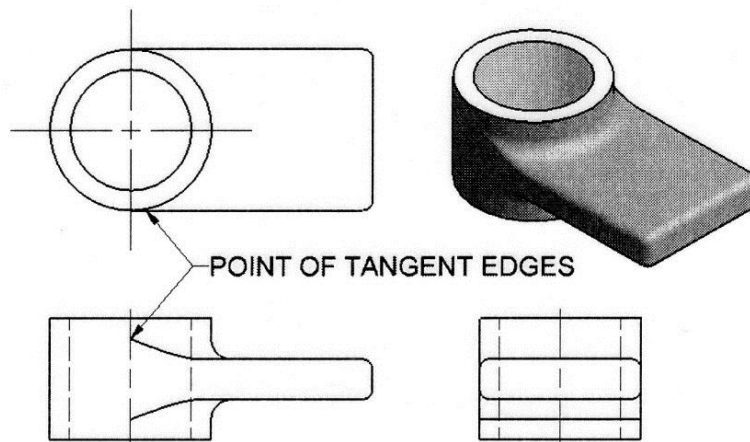

Figure 6. Conventional Fillets, Rounds, and Runouts.
- F. Runouts – is the method of representing fillets in connection with plane surfaces tangent to cylinders. See Figure 6.